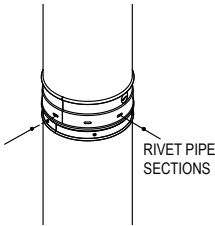

Figure 8
Duraliner pipe (flex and rigid) has male and female connectors with (4) pre-punched holes and slots that line up and are connected with stainless steel pop rivets (Fig.8). Do not use screws. When connecting sections of flex pipe, it is necessary to first align the holes with the slots, and then drill through the flex